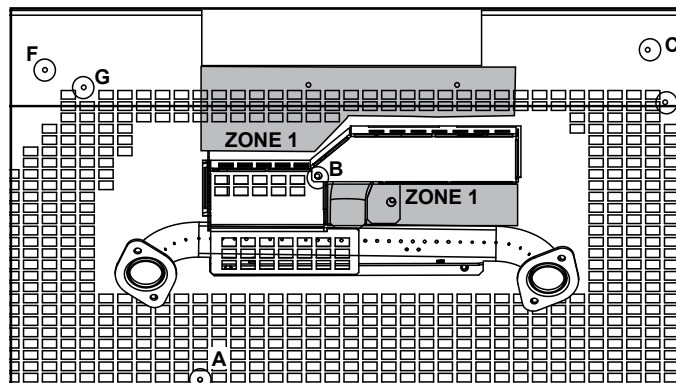

Figure 5 Zone 1 Media Placement
**MEDIA:** Fill the areas marked "Zone 1" in Figure 5 with media. Placement of media at this point will aid in the ease of placement for Log #3.